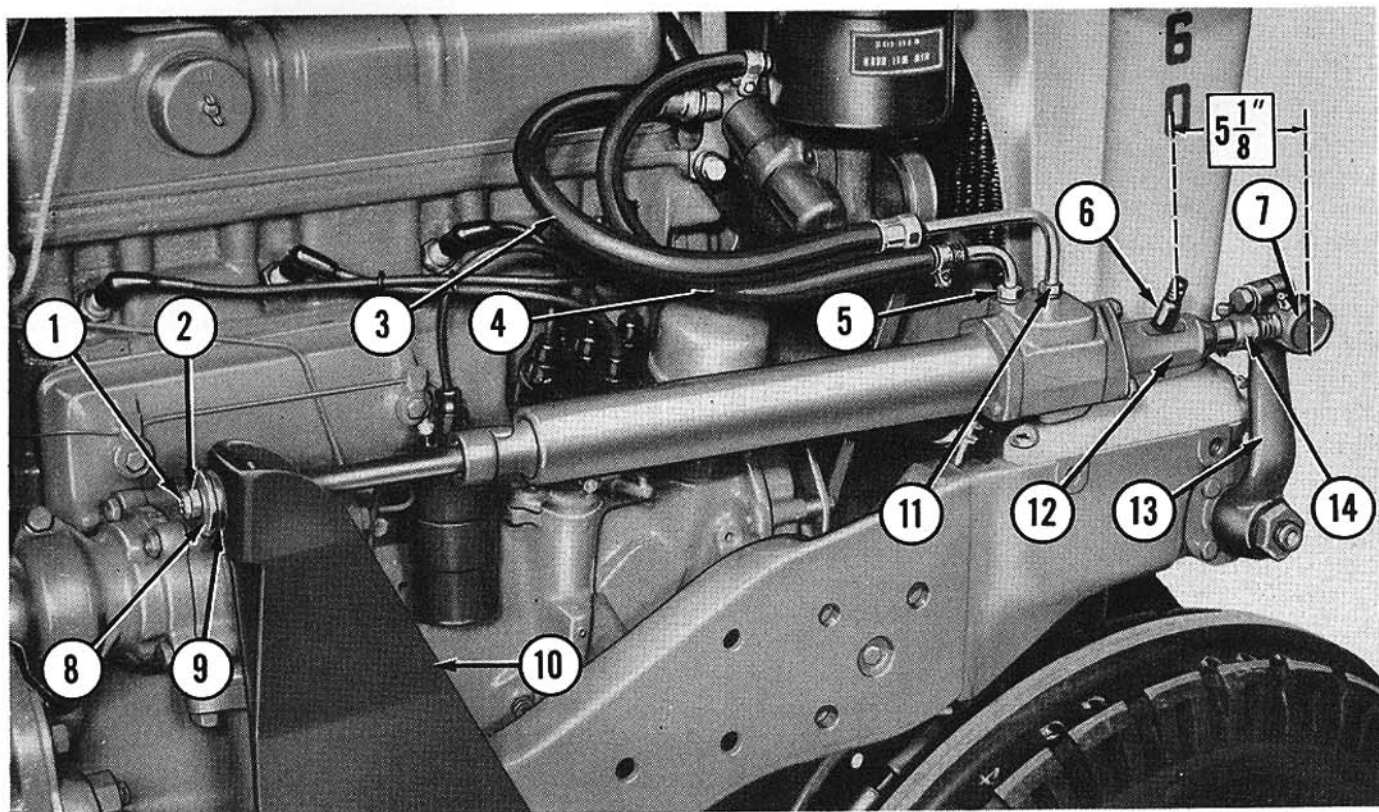

Figure 4
2. Install the new front steering arm (13), Figure 4, in a vertical position on the steering gear sector shaft by aligning the blank teeth. Install the lockwasher and hex nut and tighten securely.
4. Install the cylinder support (10), Figure 4, in the position shown on the R.H. side rail with three $\frac{5}{8}$ -18 x $1\frac{1}{2}$ " hex bolts and three $\frac{5}{16}$ -18 square nuts.
- a. Install the clamp (14), Figure 4, on the outer sleeve assembly of the cylinder. Install a $\frac{5}{16}$ -24 x $1\frac{1}{16}$ " carriage bolt in the clamp with lockwasher and nut. Do not tighten at this time.
- b. Assemble the front ball stud partially into the outer sleeve (12), Figure 4, of the cylinder and valve assembly.
- d. Jack the tractor sufficiently high to free the front wheels and align the front steering arm vertically as shown at (13), Figure 4.
- e. Install the cylinder and valve assembly by inserting the front ball stud into the front steering arm as shown at (7), Figure 4. Replace the bolt and lockwasher in the front steering arm and tighten. Position the cylinder rod through the hole provided in the cylinder support (10). Install the insulator (9), and outer insulator washer (8), to the end of the rod as shown. Secure with the $\frac{7}{16}$ -20 hex jam nut (2), and $\frac{7}{16}$ -20 hex stamped nut (1), provided. Tighten securely.
- f. Adjust the distance from the center of the cylinder control ball stud (6), to the center of the front ball stud (7), by rotating the cylinder and valve assembly. The distance between these centers should be $5\frac{1}{8}$ inches as shown in Figure 4. The face of the valve housing (containing the oil ports) should be on a horizontal plane when this measurement is made. Position clamp shown at (14) and tighten.
1. Install the pump return hose (4), Figure 4, to the pump reservoir at one end and to the rear port of